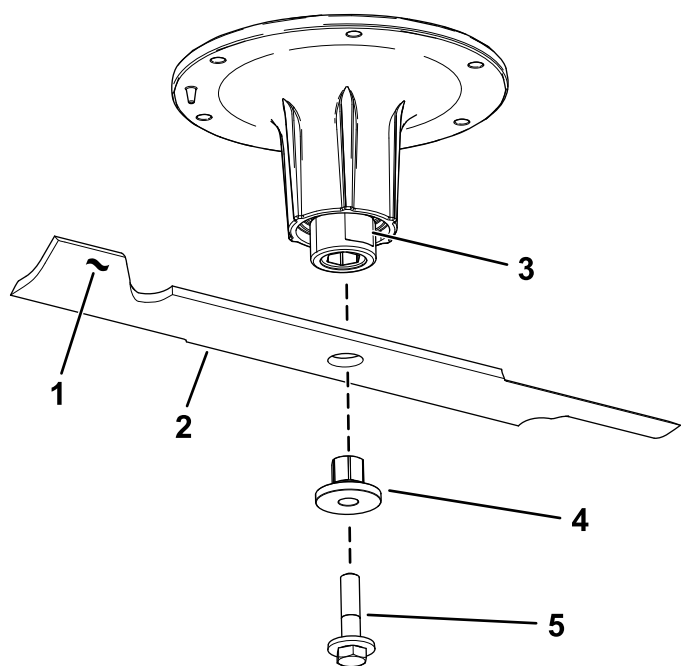

Figure 82
2. Remove the blade bolt, bushing, and blade from the spindle shaft (Figure 82).